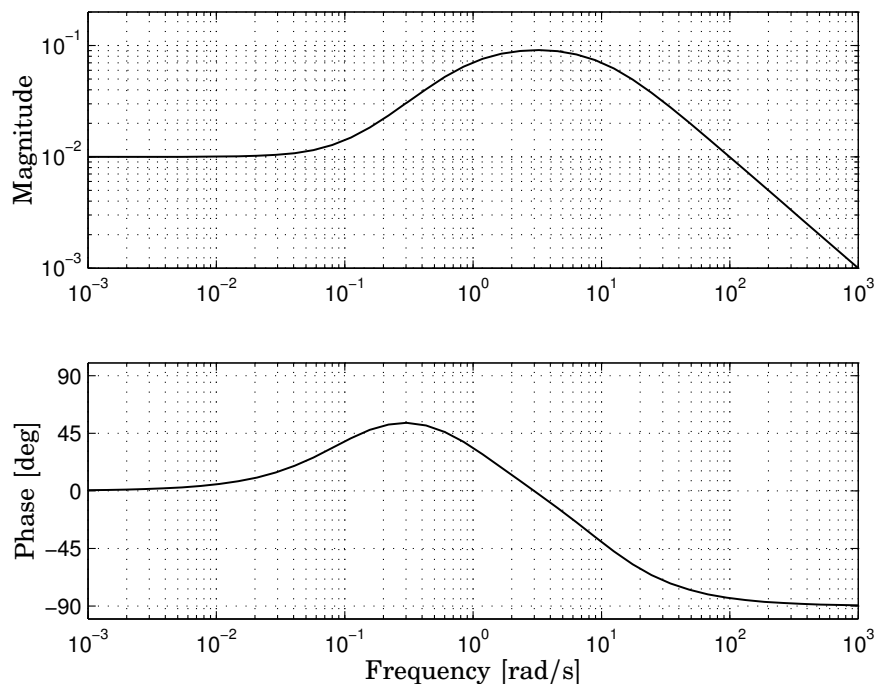

Figure 9.1 The Bode plot in Problem 9.2.
- The Bode plot of the system is shown in figure 9.1. Determine the output $y(t)$ (approximately) using the Bode plot instead.